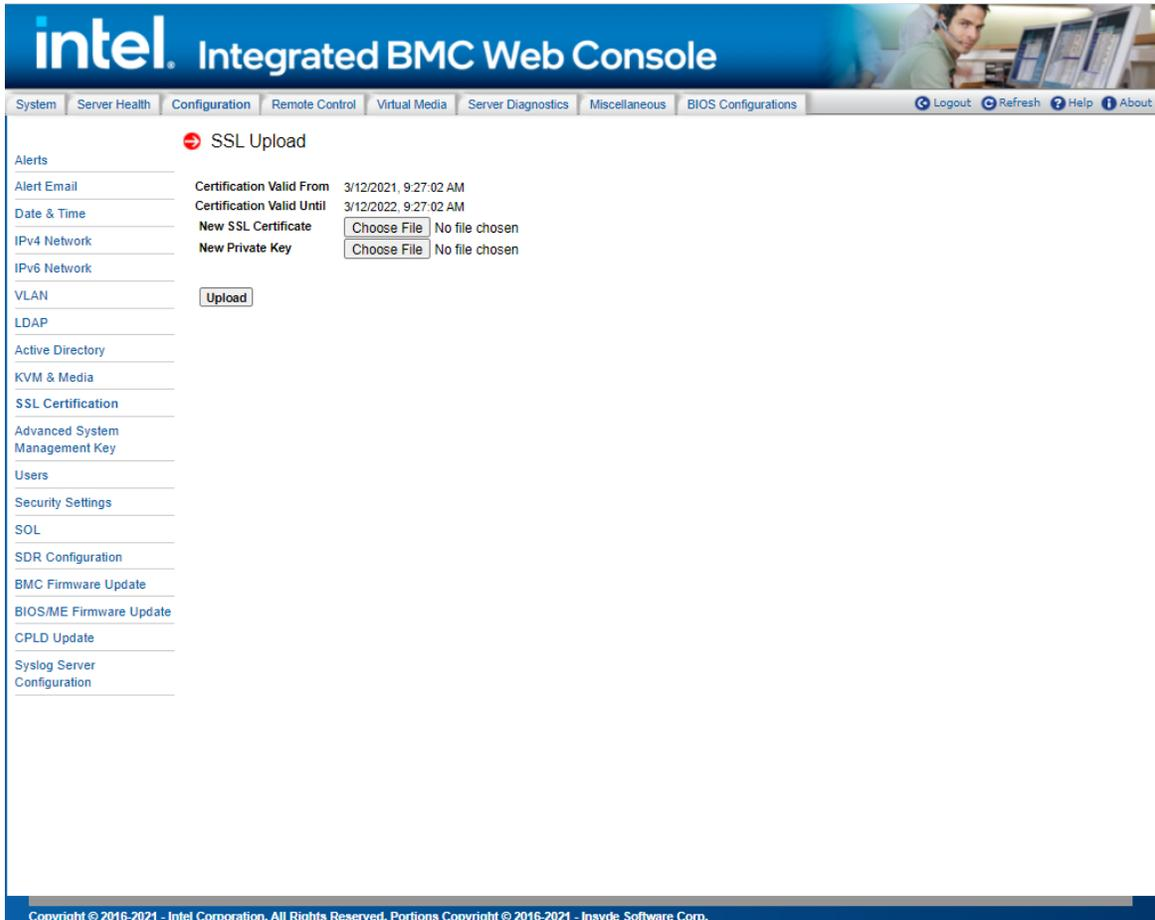

Figure 60. SSL Certification Page
The BMC generates a unique, self-signed SSL certificate when the server is first plugged into AC power. This default certificate is less secure than one signed by a Certificate Authority (CA). Uploading a CA signed certificate is recommended to allow client software to verify the authenticity of the BMC. Use this page to upload an SSL certificate and private key, which allows the device to be accessed in a secured mode. See Figure 60 for details.